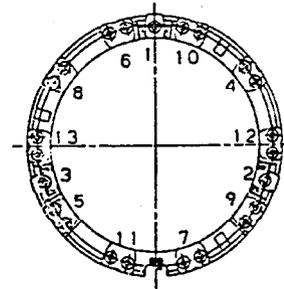

Fig. 4 Order for tightening clamps
8) When they are tightened uniformly, use a torque wrench, (Fig. 4).